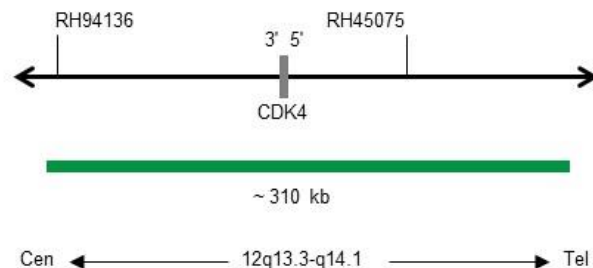

Fig. 1: SPEC CDK4 Probe map (not to scale)
- Digoxigenin-labeled polynucleotides (~1.1 ng/ μ l), which target sequences mapping in 12q13.3-q14.1* (chr12:58,004,553-58,313,271) harboring the CDK4 gene region (see Fig. 1).